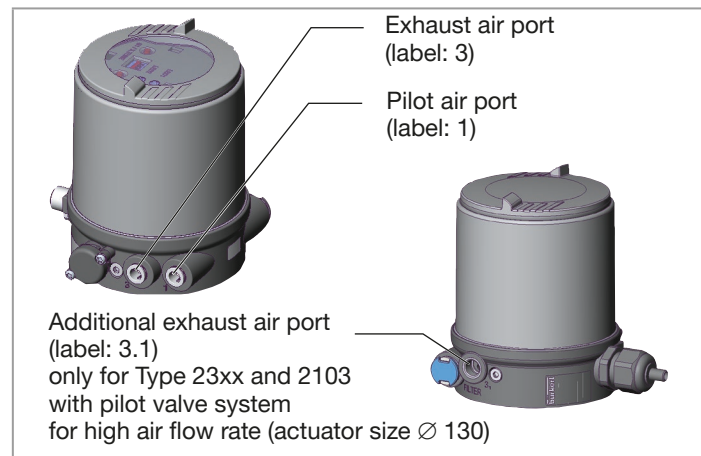

Fig. 10: Pneumatic connection
- Connect the control medium to the pilot air port (1) (3 – 7 bar; instrument air, free of oil, water and dust).
- Attach the exhaust air line or a silencer to the exhaust air port (3) and, if available to the exhaust air port (3.1) (see “Fig. 10”).